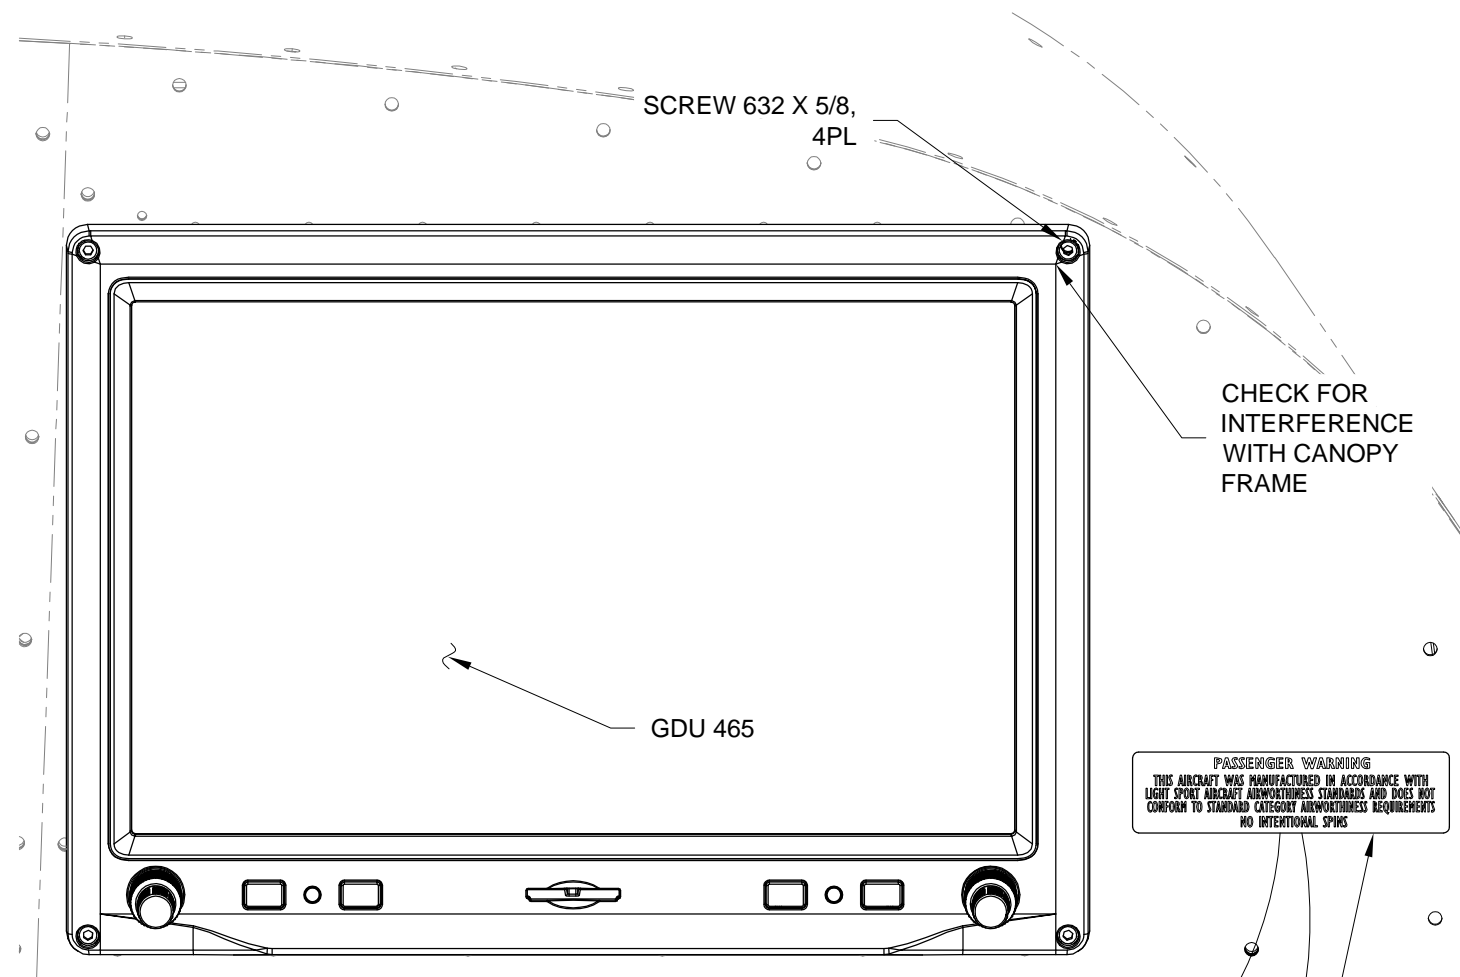

FIGURE 1: INSTALLING THE MFD
Step 4: Install the passenger warning label from the F-1200 Interior Label Sheet in the approximate location shown in Figure 1.